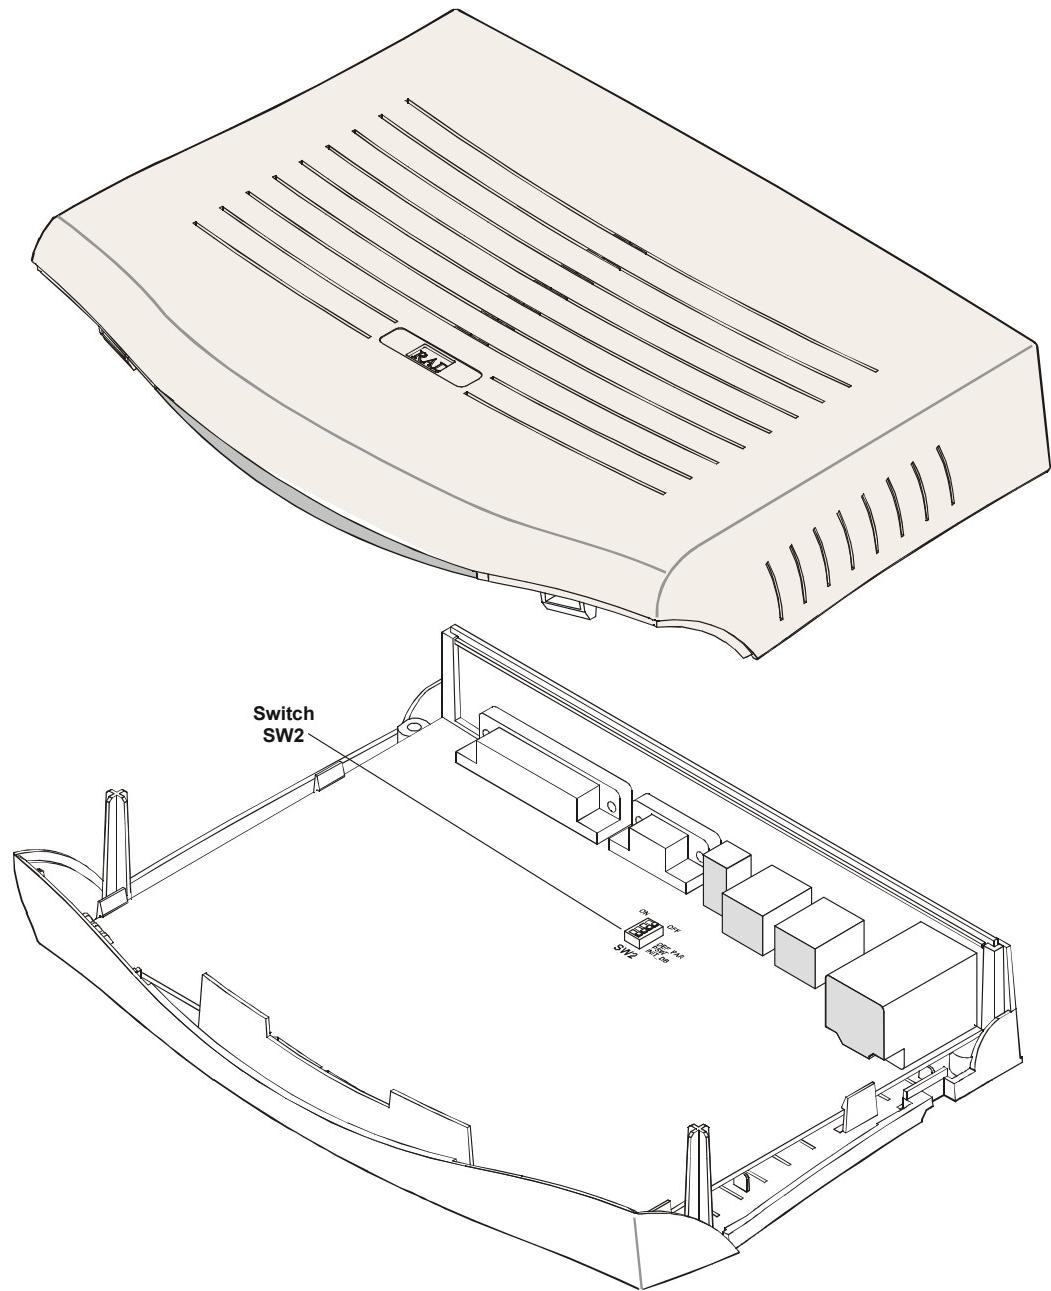

Figure 2-5. FCD-E1LC, General View After Cover is Removed
3. After catches are released, the cover easily slides off. *Figure 2-5* shows a general view of a typical FCD-E1LC unit after cover is removed.